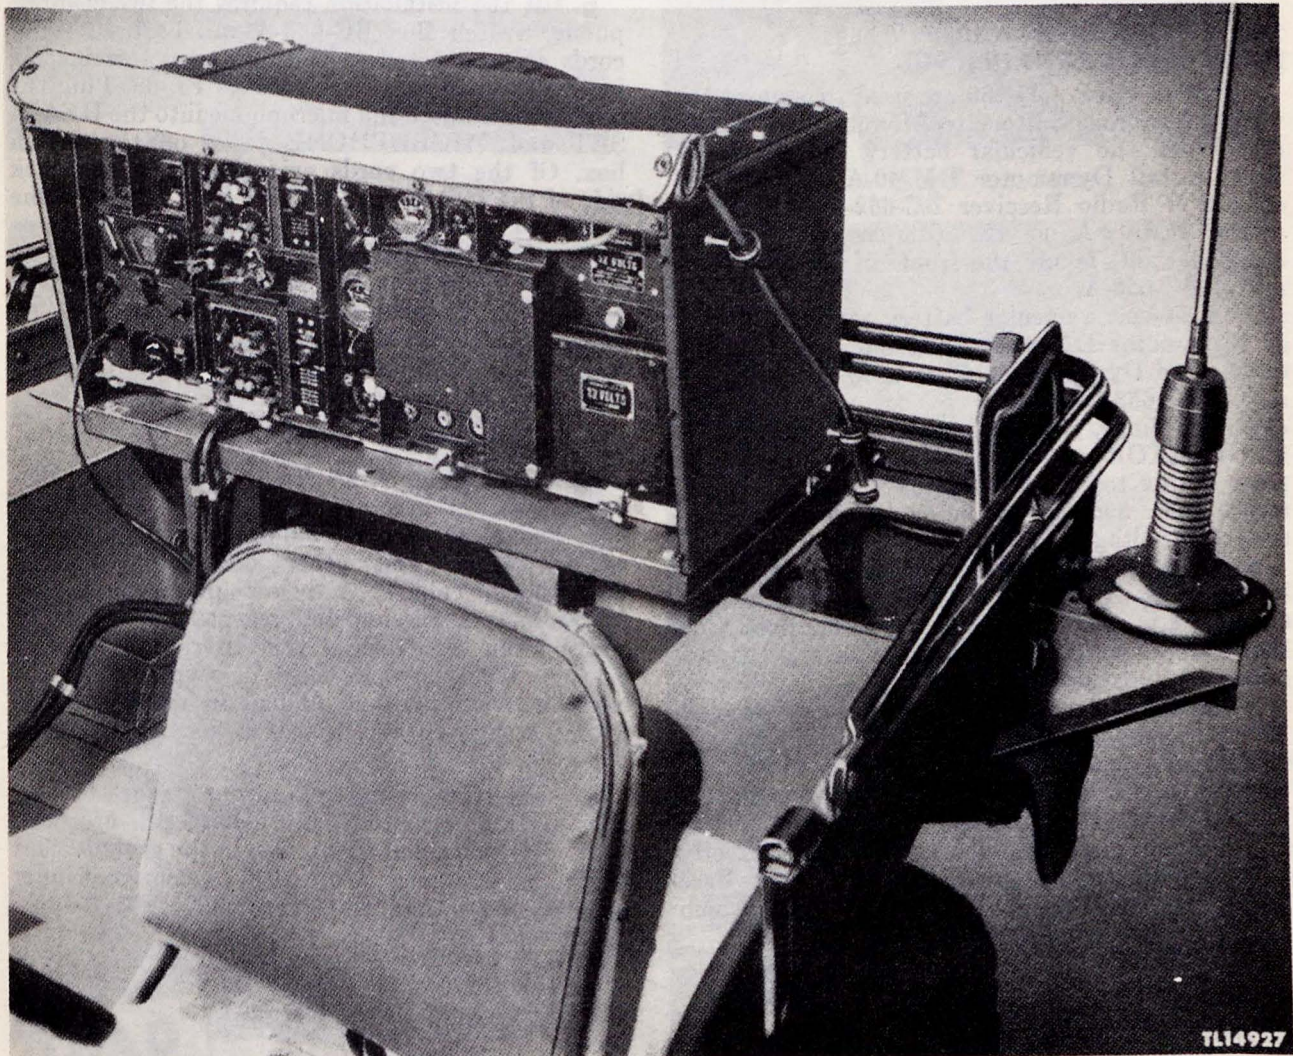

Figure 26. Radio Set SCR-506-A installed in Truck, $\frac{1}{4}$ -ton, 4 x 4.
a. Installations Using Cabinet CH-74-A. When Cabinet CH-74-A is required in the installation: (fig. 26) first, install Mounting FT-253-A on the floor of the cabinet with the five clamp fasteners facing the open front of the cabinet; then place Radio Transmitter BC-653-A on the right side of Mounting FT-253-A, facing the open front of the cabinet. Place Radio Receiver BC-652-A on the left side of Mounting FT-253-A in a like manner. The five clamp fasteners on the front of the mounting are used to secure the transmitter and receiver.